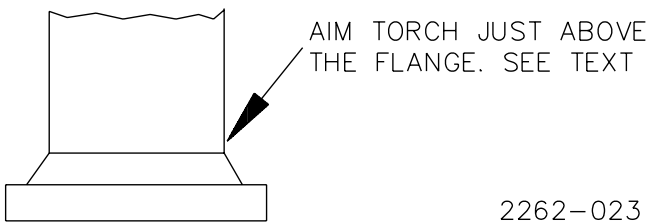

Figure 2-16.
- Using a #3 or #4 torch tip, heat the entire circumference of the line and flange. Keep the torch moving and heat 2 or 3 inches of the line/flange at a time. Aim the torch at the copper just above the crack between the flange and the line. This will minimize the need for fill solder. If the brass flange is heated more than the copper line, the flange will expand and create an unnecessary gap to fill with solder. Use caution. There is a fine line between melting the solder and melting the brass flange or burning a hole in the copper. The solder will pull up into the joint from the solder ring by capillary action. Once it starts to flow, do not stop until the entire circumference of the joint has solder appearing in it. If the solder from the internal solder ring does not "wick up" and become visible at the joint after a few minutes, a small amount of solder can be applied to the joint to enhance the heat transfer. See Figure 2-16.